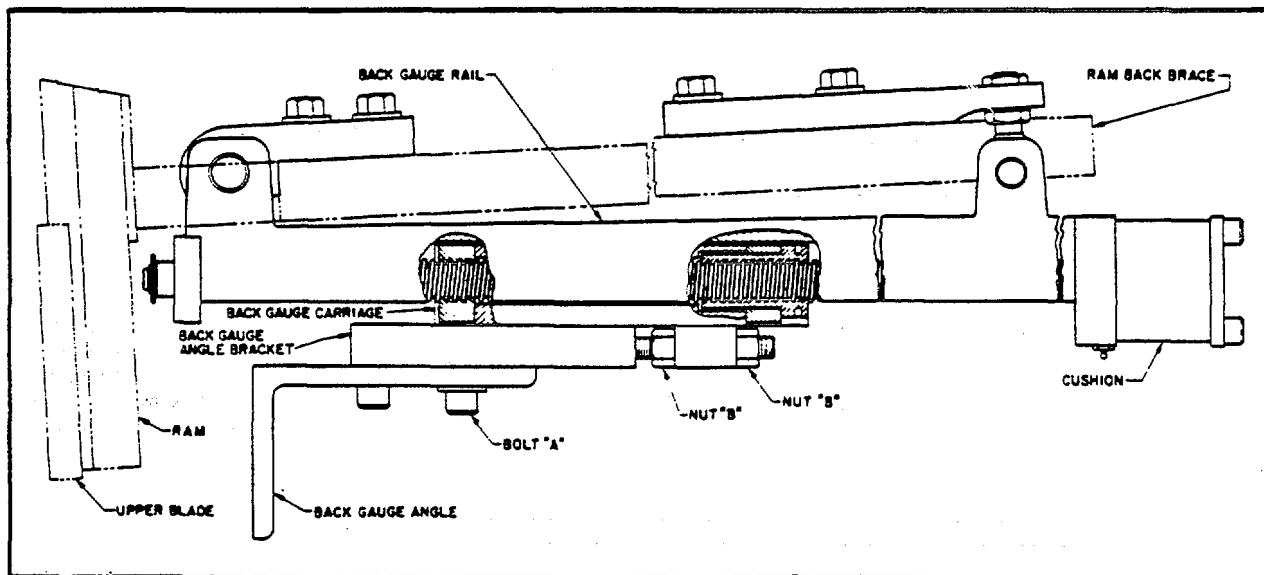

Figure 26. Back Gauge Angle
- A. Loosen bolt "A" and stud nuts "B" (Figures 26 and 27) on one back gauge angle carriage.